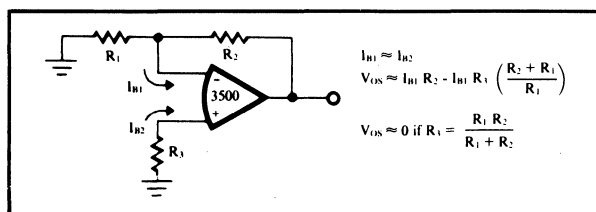

FIGURE 6. Minimization of Bias Current Effects.
8.2 Bias Current Effects. Input bias current of the amplifier creates additional offset voltages by flowing in the impedances of the signal source and the feedback network. Although the bias currents of the 3500 are quite small, their effects may be appreciable when these impedances are large. The bias currents at the two inputs tend to be equal and the difference current smaller than either. Thus equalizing the resistance from each input to common, as in Figure 6, is an effective means of reducing DC offset due to bias current.